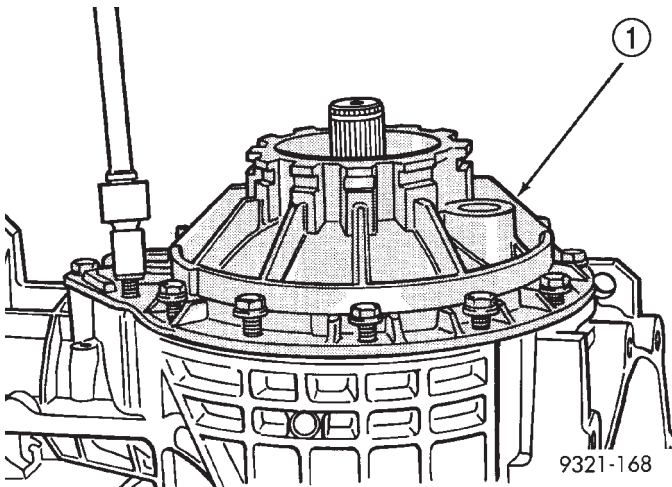

Fig. 427 Differential Cover Installation
(53) Apply a 1/8 inch bead of sealant to differential cover flange. Then install differential cover with sealant (Fig. 427) and tighten cover bolts.